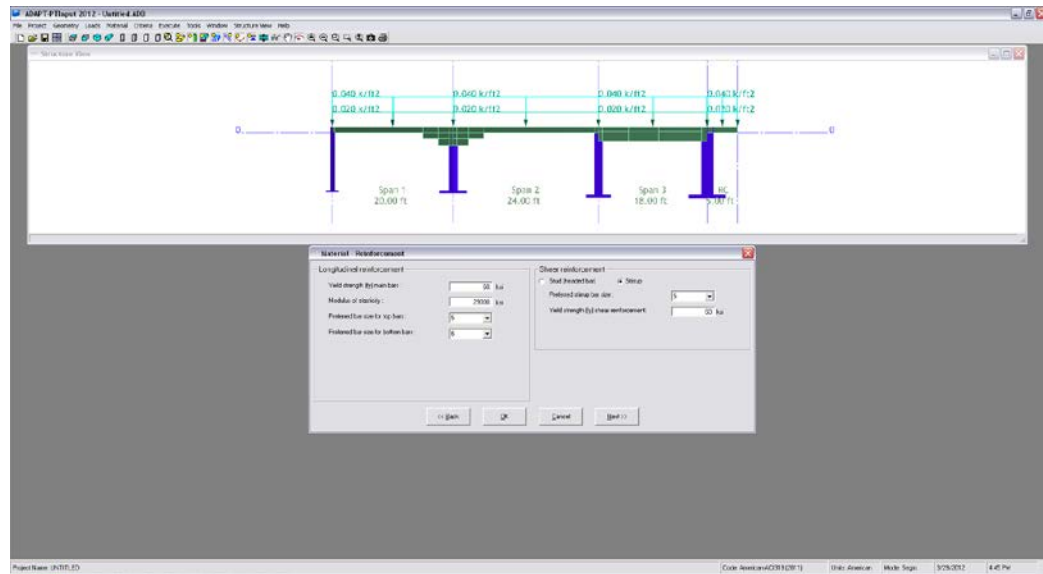

FIGURE 5.3-19
5.3.4.2 Enter The Properties Of Reinforcement (Fig. 5.3-19)
Edit the properties of reinforcement and bar sizes. Change the bar sizes according to **Figure 5.3-19**. The preferred bar sizes for top and bottom will be used when calculating the number of bars required.